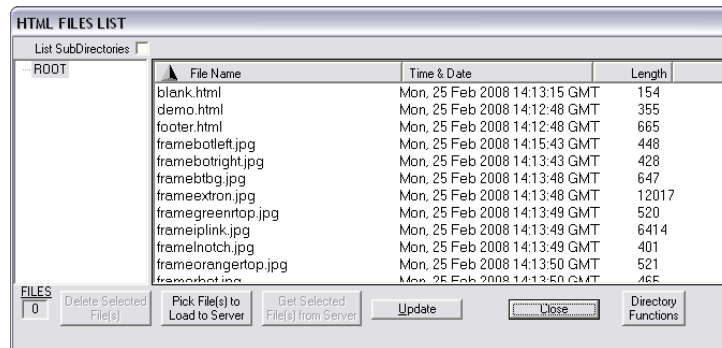

Figure 73. HTML Files List Window
You can create customized HTML pages for the switcher to display. The HTML Files List window (see figure 73) provides a way to view the contents of the switcher file system and to upload custom HTML pages to the switcher.
- The files listed in figure 73 are shown for example only and may not be present on your switcher.